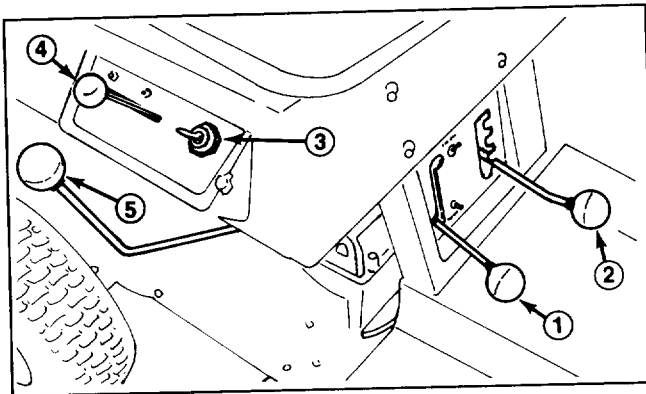

Figure 5
Gear Shift (Fig. 5) – The transmission has five forward speeds, neutral and reverse. The gear shift lever is located on right side of operator. An interlock switch, which prevents engine from being started when transmission is in gear, is mounted on top of transmission.
Blade Control (Fig. 5) – Blade control engages and disengages the cutter blade. An interlock switch prevents engine from starting when control is in the ENGAGE position. Engine will start when control is in the DISENGAGE position only.
Throttle Control (Fig. 5) – Throttle control connects to and operates carburetor-mounted throttle and choke. Control has three positions: SLOW, FAST and CHOKE.
Height-of-Cut (Fig. 5) – Height-of-cut control varies the cutting height from approx. 1-1/2 to 3-1/2 inches in five increments.
2. Move gear shift into neutral and blade control into DISENGAGE detent (Fig. 5).
3. Move throttle control to CHOKE position (Fig. 5) when starting a cold engine. However, a hot engine requires no choking. Move throttle to FAST position for starting.
4. Rotate ignition key (Fig. 5) to START position. When engine starts, release the key and move throttle between FAST and SLOW if choke was used for starting.
1. Move blade control into DISENGAGE detent (Fig. 5).
2. Move height-of-cut control (Fig. 5) into desired setting.